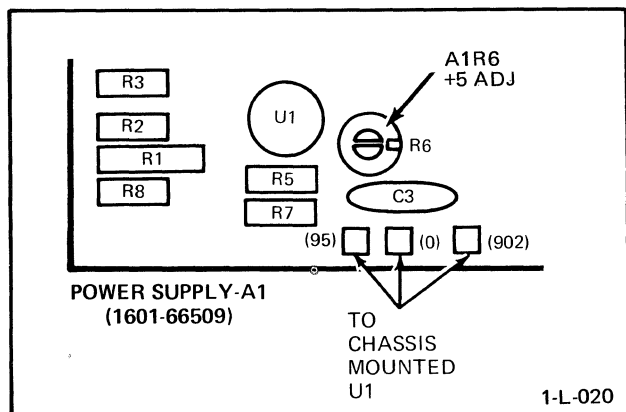

Figure 5-11. +5V Adjustment Location
- Adjust A1R6 (see figure 5-11) for $+5 \pm 0.01$ Vdc.